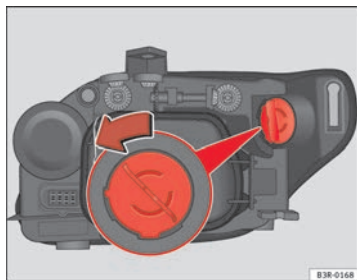

Fig. 191 Turn signal
- Turn the bulb holder anti-clockwise, pulling it by the grip ⇒ fig. 191 and removing the bulb holder and the bulb.